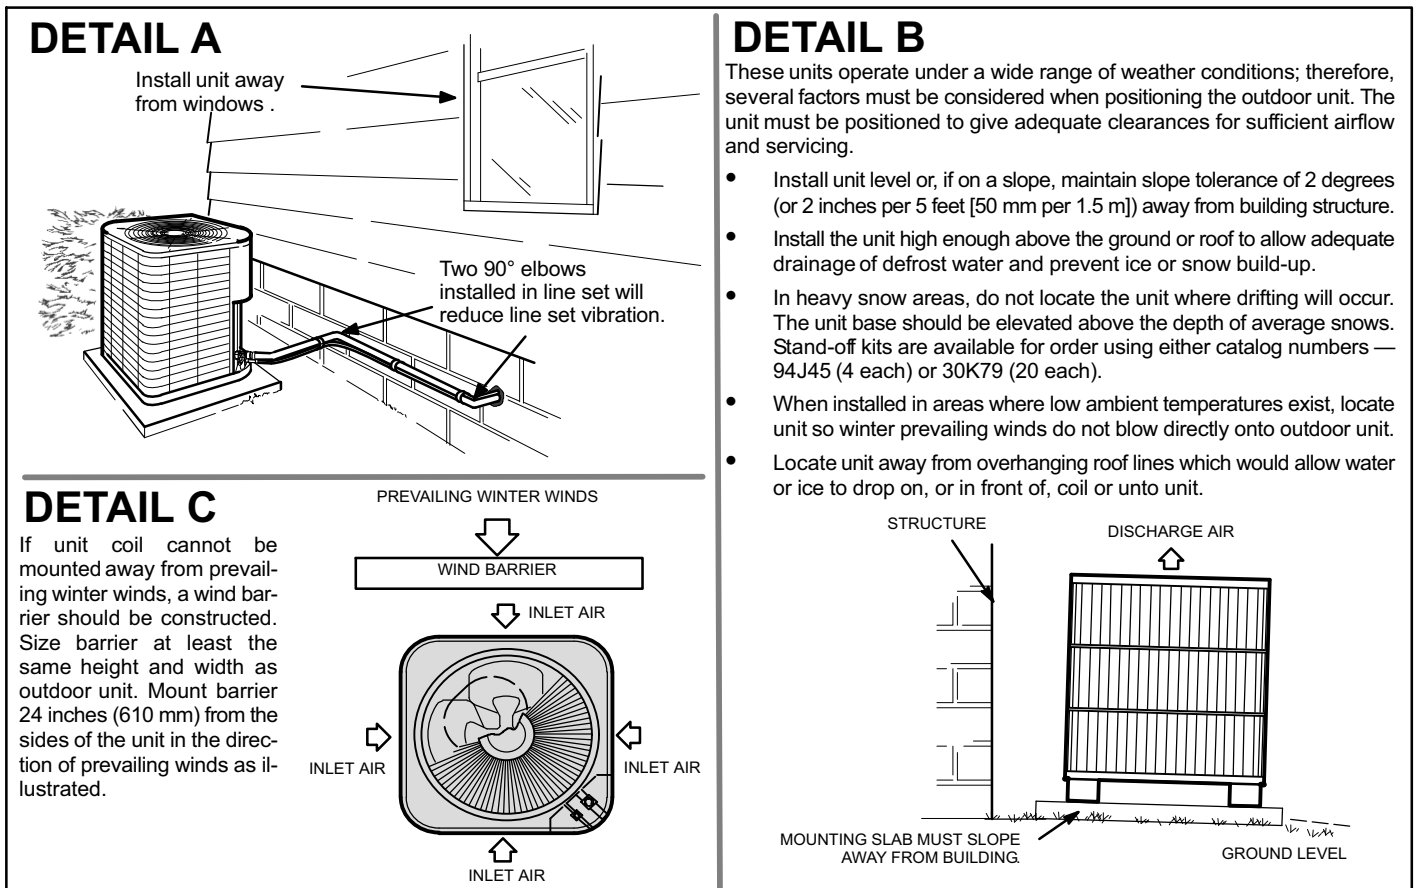

Figure 5. Placement, Slab Mounting and Wind Barrier
- When possible, do not install the unit directly outside a window. Glass has a very high level of sound transmission. For proper placement of unit in relation to a window see the provided illustration in figure 5.
When installing a unit at grade level, the top of the slab should be high enough above the grade so that water from higher ground would not collect around the unit as illustrated in figure 5.
Slab may be level or have a slope tolerance away from the building of not more than two degrees, or 2 inches per 5 feet (51 mm per 1524 mm) as illustrated in figure 5.
Install the unit at a minimum of 4 inches (102 mm) above the surface of the roof. Ensure the weight of the unit is properly distributed over roof joists and rafters. Redwood or steel supports are recommended. Refer to figure 5, detail c, for rooftop wind barrier considerations.